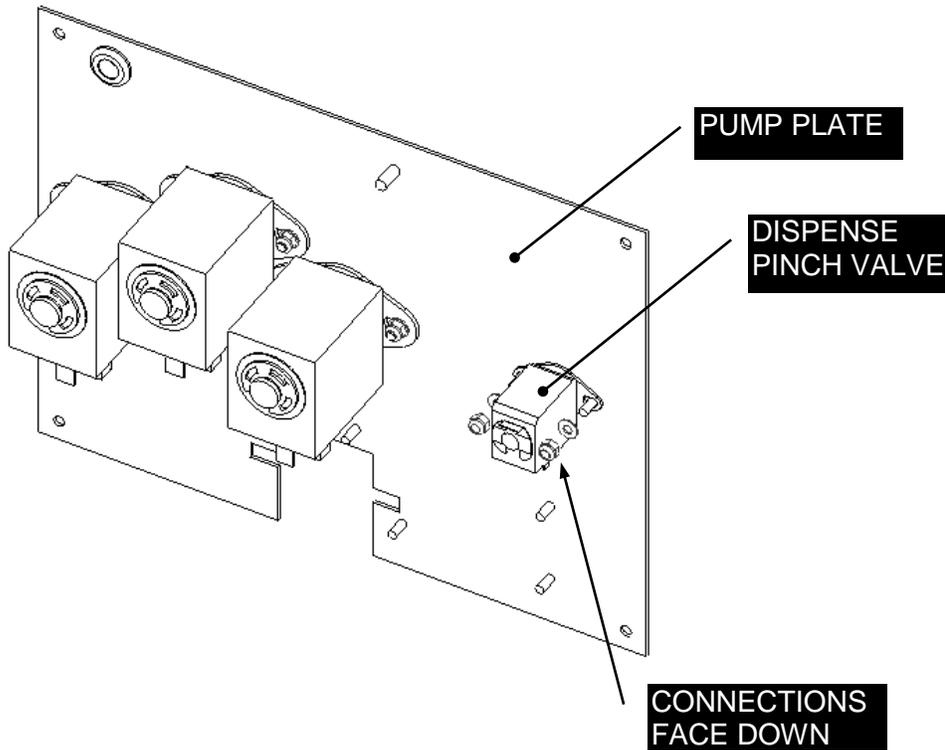

Figure 10-7 Pinch Valves
1. Remove the nuts affixing them to the pump plate (Figure 10-7)